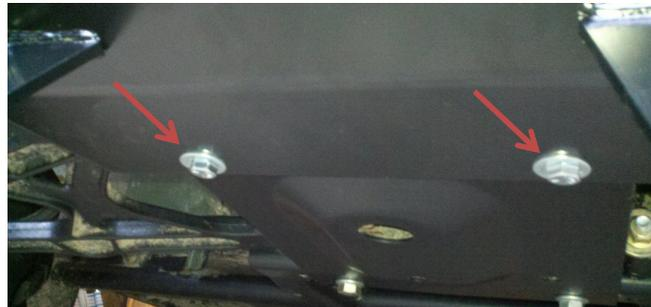

Figure 3
2) Secure the bottom of the mount to the frame using the other pair of M10 bolts, washers and Nylock nuts. **(Figure 3)** Tighten the bolts to no more than 29 ft-lbs of torque.